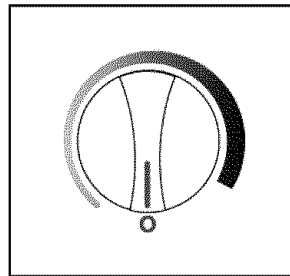

Fig. 14
- Turn the temperature control knob (using a coin or screwdriver) clockwise to the furthest (maximum) setting on the darker blue section of the graduated control dial. **See Fig. 14**
- To turn off the refrigerator, (no cooling) rotate the control knob to the "0" position. **See Fig.14**